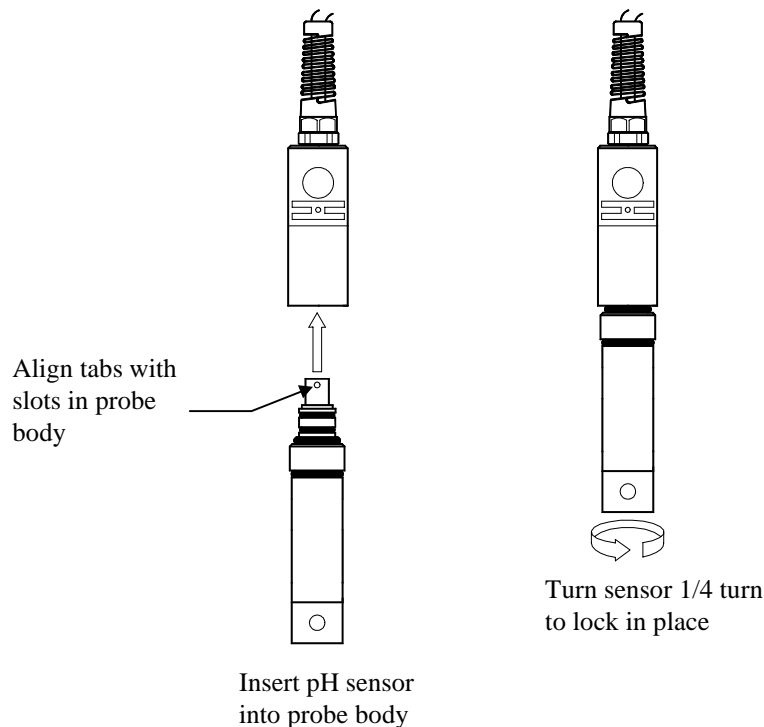

Figure 3
2. Insert the pH sensor into the probe body (be sure to align the tabs on the sensor with the slots in probe body) and twist 1/4 turn to lock in place. See *Figure 3*.